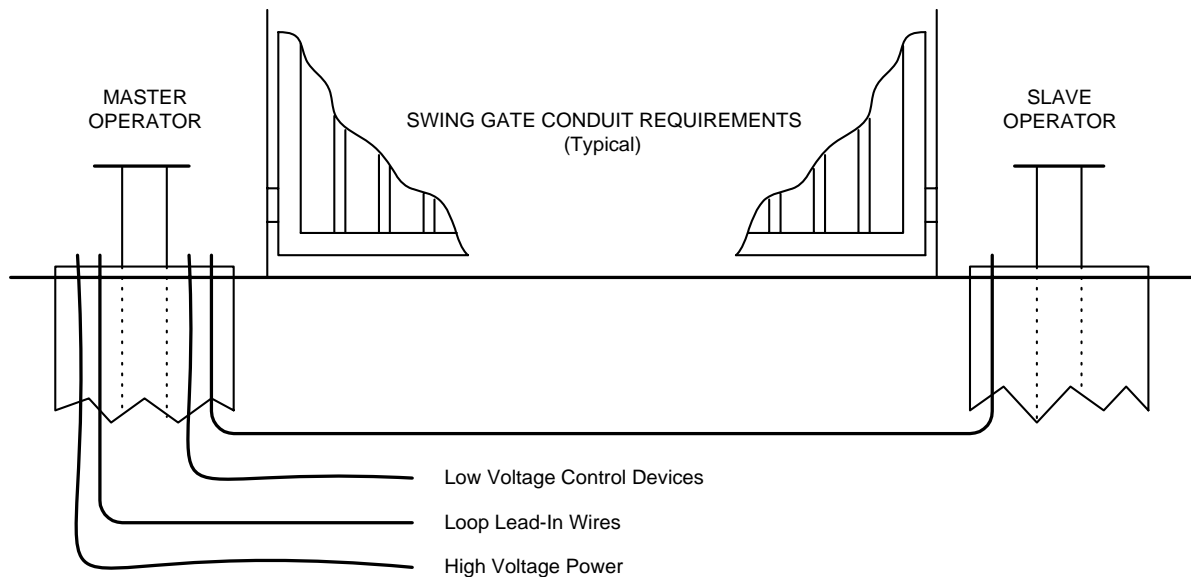

Figure 24
- The conduit requirements shown in figure 24 are for a typical swing gate operator installation (the slave operator is shown for those applications where a slave operator may be used). The conduit requirements for your application may vary from this depending on your specific needs.
- Connect optional control devices to the master operator terminal strip as shown in Figure 24. Be sure that all electrical connections are made in accordance with local electrical codes. Use 18 AWG wire for all low voltage wiring, maximum distance 3000 feet. Use a low voltage surge suppresser, DoorKing P/N 1878-010 if low voltage wire runs exceed 1000 feet. All inputs to the terminal strip must be NORMALLY OPEN.